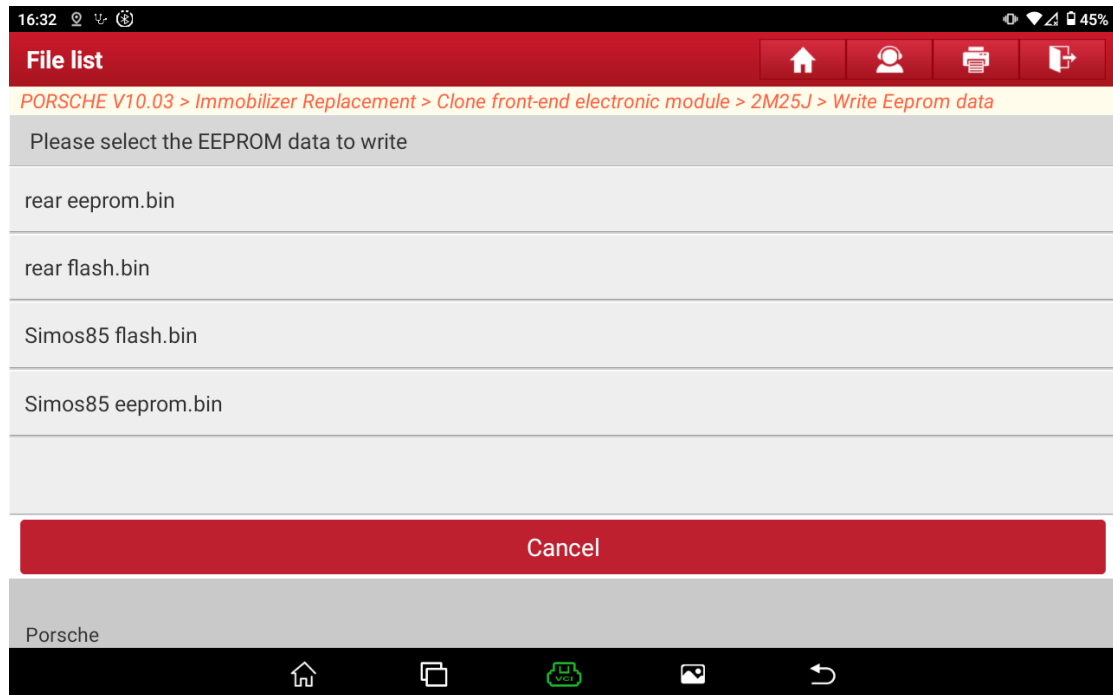
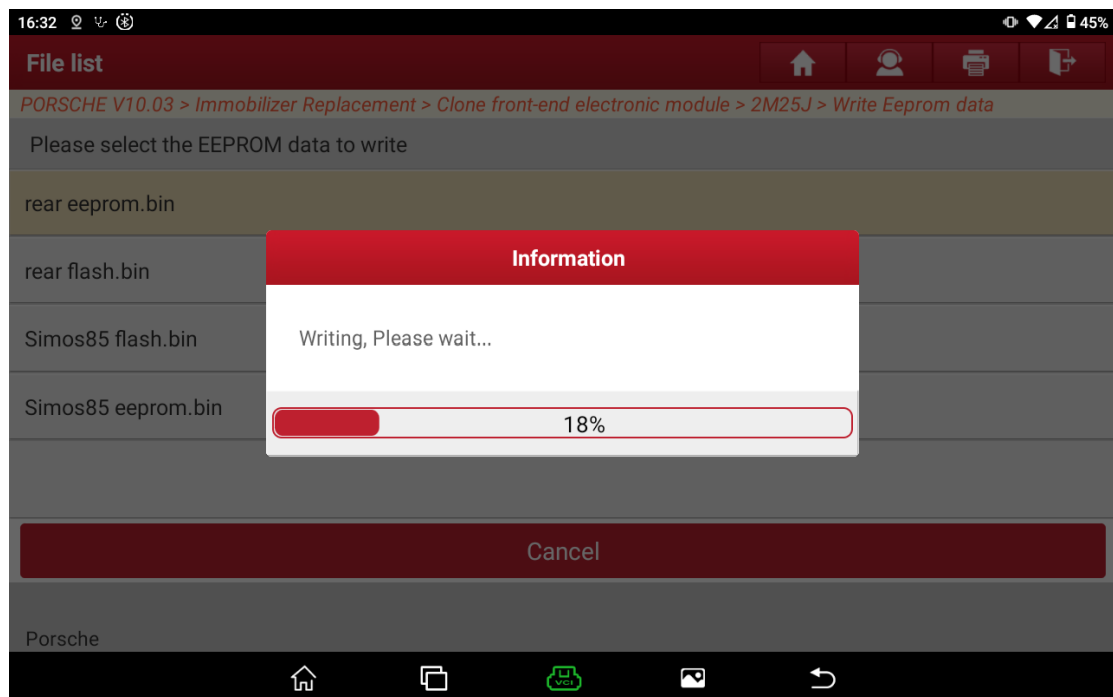

Figure 11
Figure 12
- 11. Choose [Write EEPROM data], and choose the EEPROM data file of the original car module, as shown in Figure 11. Start writing, as shown in Figure 12.